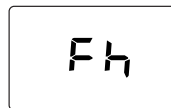

fig. 6- Vent with fan off
- In the next 280 seconds, the venting cycle continues with the fan off (fig. 6).